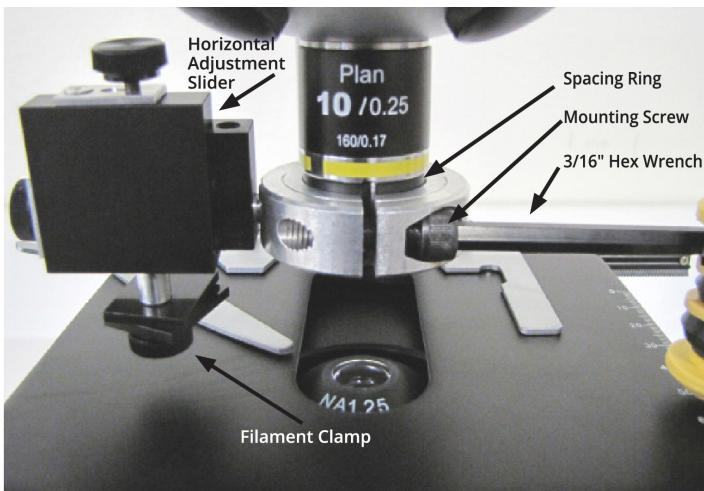

Fig. 7—Mounting screw and proper orientation of the filament adjustment assembly
1. Using the 3/16 hex wrench provided, loosen the mounting screw on the Filament Adjustment Assembly to open the ring so that it will fit comfortably over the objective and the Spacing Ring. (Fig. 7.)
3. While maintaining the Filament Adjustment Assembly in position on the objective, slowly swing the objective down into the viewing position. Once in place, position the horizontal adjustment slider to the left of the microscope objective and parallel to the long edge of the microscope stage. (Fig. 7.) With the 3/16 hex wrench, tighten the mounting screw on the ring to secure the Filament Adjustment Assembly to the objective.